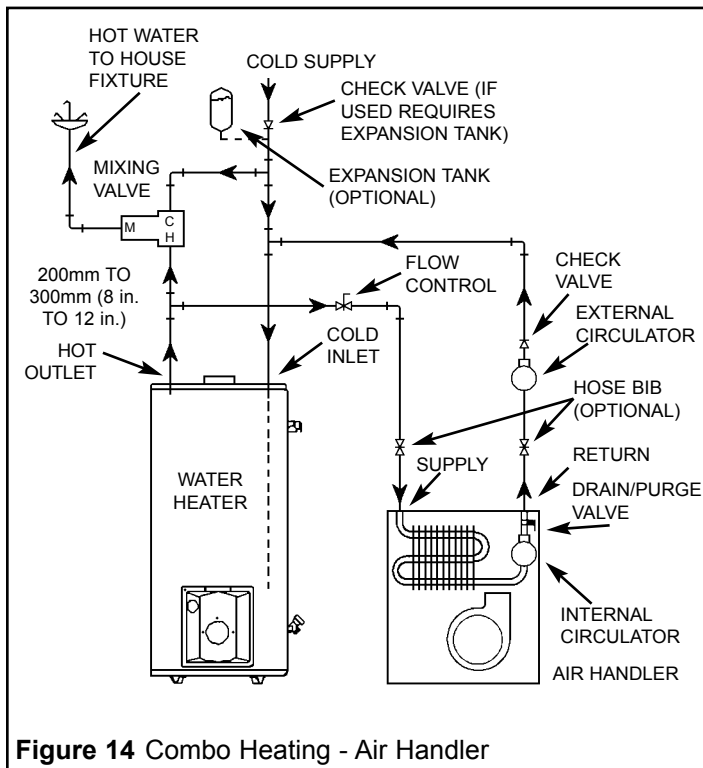

Figure 14 Combo Heating - Air Handler
8. “Combo” Heating Systems require higher water temperatures than other applications. When the system is used to supply water for Combo Heating applications, a means, such as mixing valve, must be installed to temper the water in order to reduce scald hazard potential (see Figures 14, 15 & 16).
1. A fan coil/air handler (Figure 14).